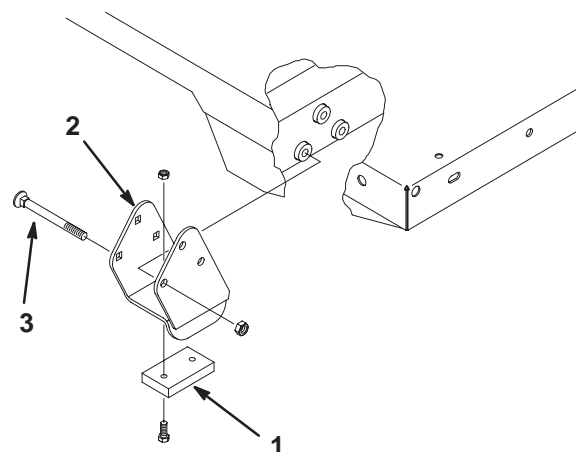

Figure 4
3. Mount a wear block to each spacer bracket (L.H. and R.H.) with (2) pan head screws and locknuts (Fig. 4).
4. Mount spacer brackets to front of R.H. and L.H. bed frame channels with (3) carriage bolts and locknuts. Position brackets on channel as shown in figure 4.